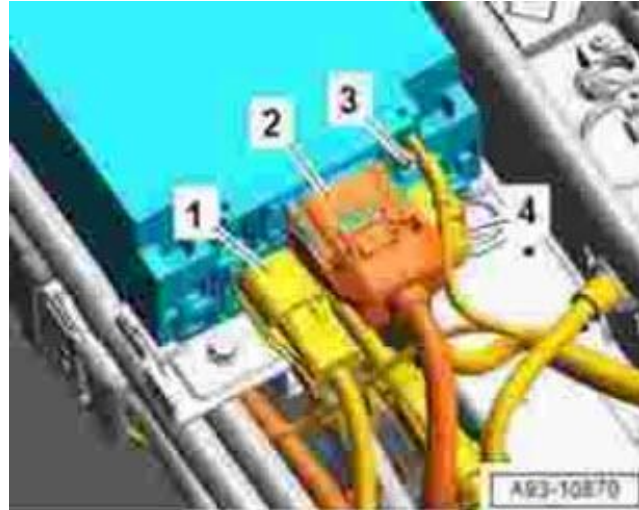

Figure 1. Labeled connections.
- Before installing the charging unit, the fuse of the OBC1 (5) or OBC2 (11) must be removed from the fuse carrier 1 (SR1)
- First connect the electrical connectors -1- and -2- (Figure 1).
- Connect the electrical connector -4- last (Figure 1).